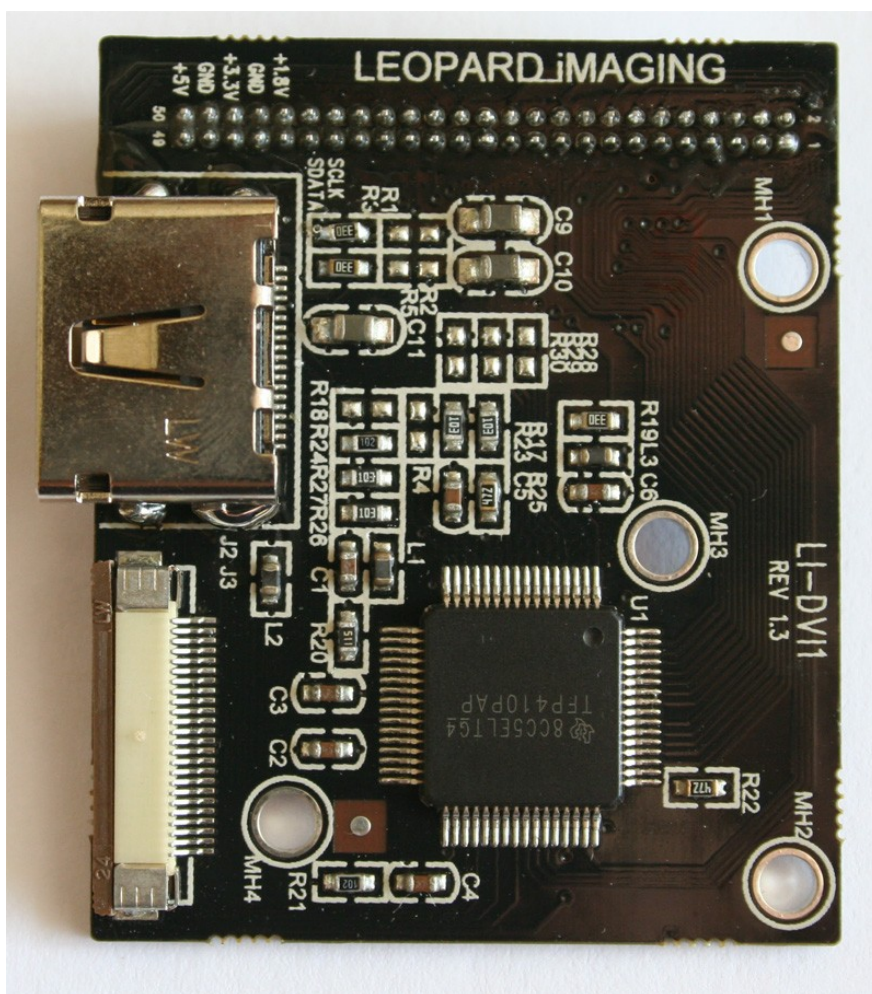

Figure 16. DVI Board
1.2.5.10 DVI board, see Figure 16